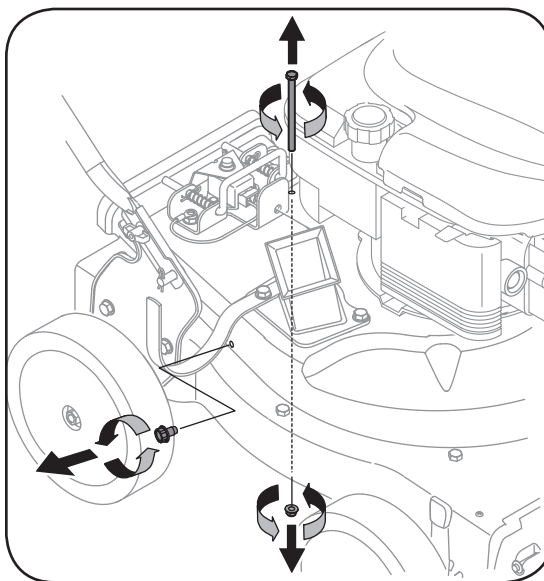

Figure 17
1. **Wheels:** Lubricate each wheel shoulder screw (rear wheel) and pivot arm axle (front wheel) once a season with light oil. Refer to Figure 17.
5. Remove self tapping screw on right side of unit that attaches to the flail screen. See Figure 17.
6. Remove hex screw on top of rear housing near mounting bracket and the flange lock nut that secures flail screen. See Figure 17.